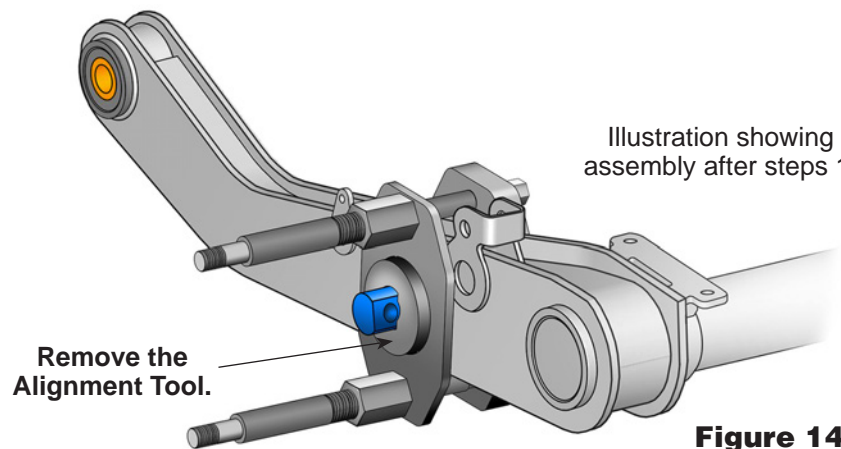

Figure 14
6. Tighten the clamping nuts to the clamping plate. See Figure 14.